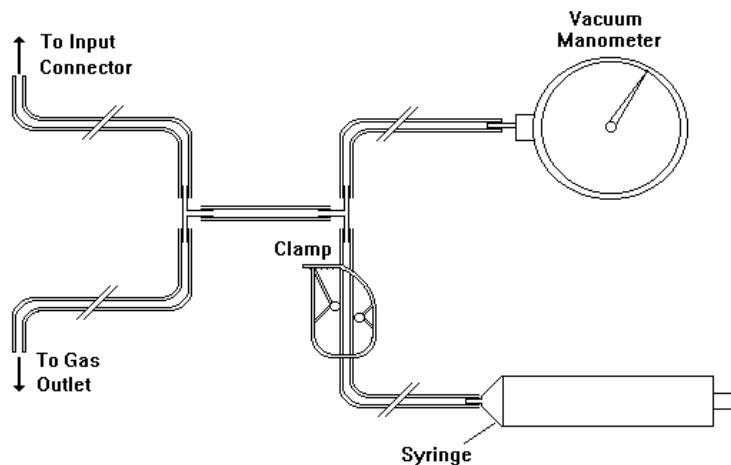

Figure 10-1: Leak Test Jig Connection
1. Connect the vacuum manometer to the Leak Test Jig as shown in Figure 10-1.
3. Connect the open-ended tubing (as shown in Figure 10-1) of the Leak Test Jig to the Gas Outlet of the monitor.